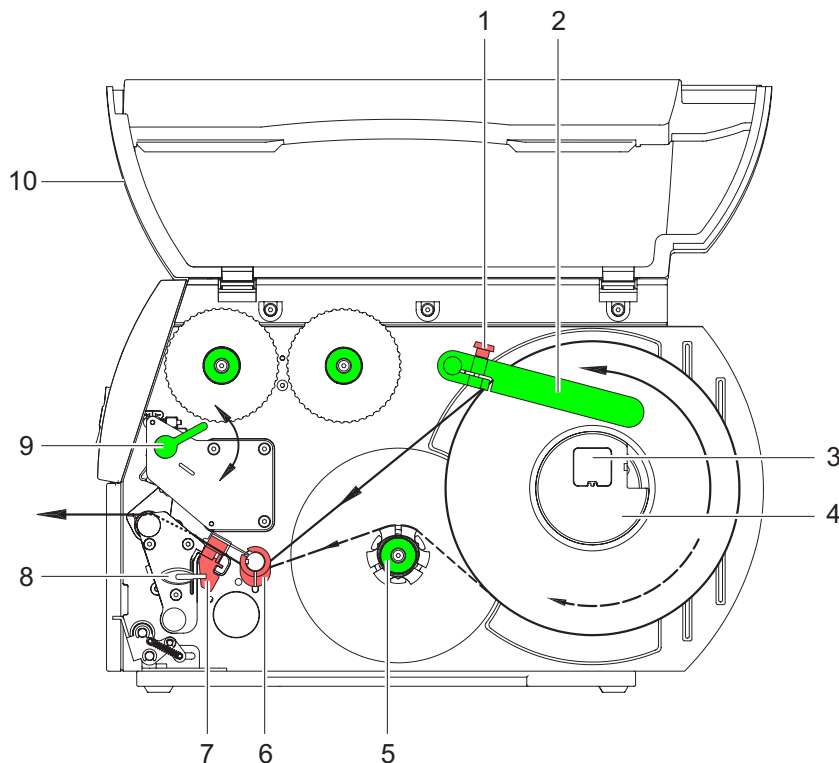

Fig. 5: Loading labels from a roll
For adjustments and simple installation work, use the accompanying **hexagonal wrench** located in the bottom section of the print unit. See Fig. 5, Item 8. No other tools are required for the work described here.
- ⇒ Turn lever (Fig. 5, Item 9) clockwise to lock the printhead.